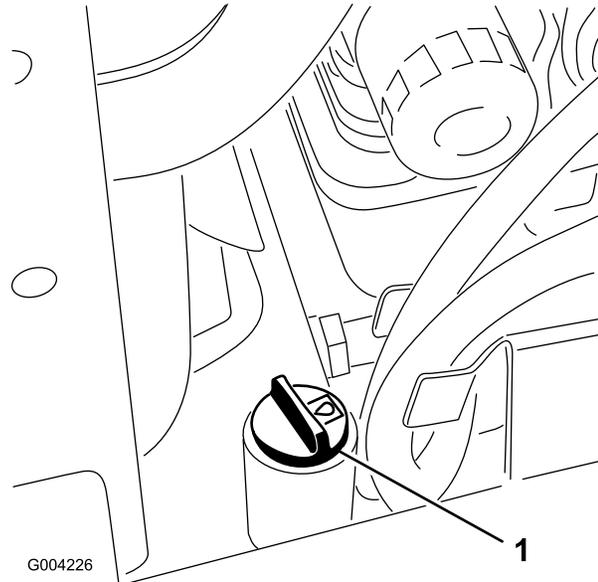

Figure 12
5. Clean the area around the filler neck of the hydraulic tank (Figure 12).